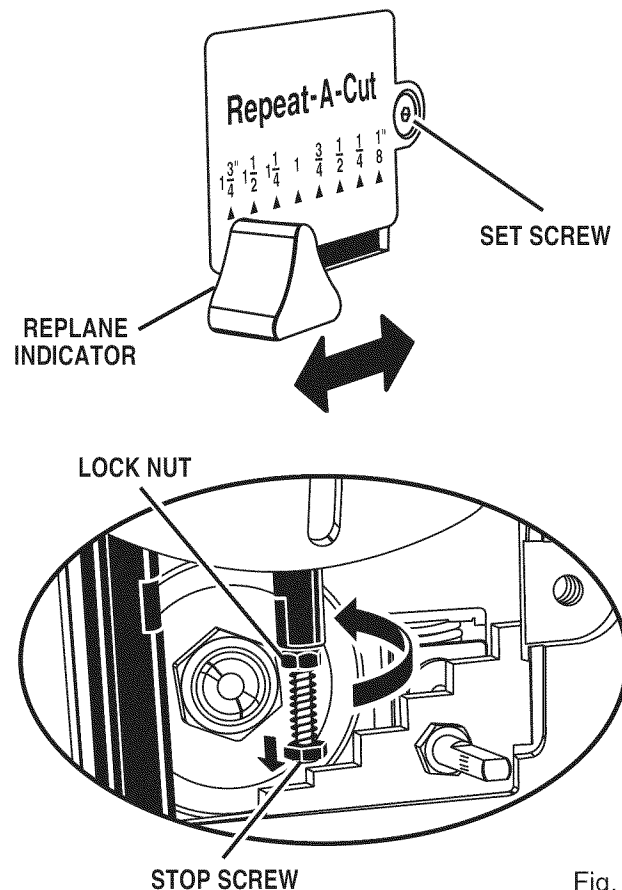

Fig. 14
See Figure 14.
- Remove the set screw on the right-hand side of the planer Repeat-A-Cut™ cover (see figure 14).